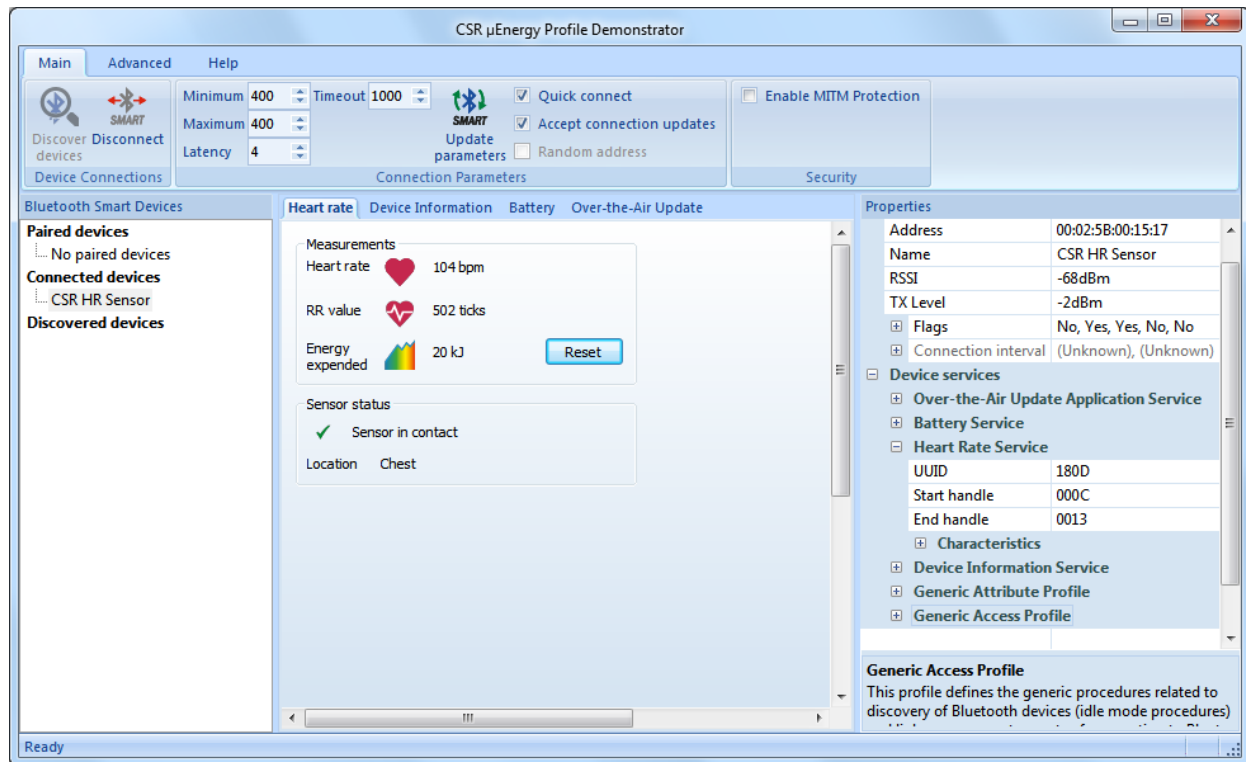

Figure 2.7: Device Connected
- When the device labelled **CSR HR Sensor** appears, select it to display the device address on the right hand side of the screen. Enter the preferred connection parameters from Table 7.4 in the **Connection Parameters** tab. Click on the **Connect to device** button to connect to this device. The CSR μ Energy Profile Demonstrator application displays a tabbed pane corresponding to different services supported by the device, see Figure 2.7.
- The **Heart Rate** tab in the **CSR μ Energy Profile Demonstrator** application window, see Figure 2.7 shows the latest received Heart Rate measurement and the status of the sensor.